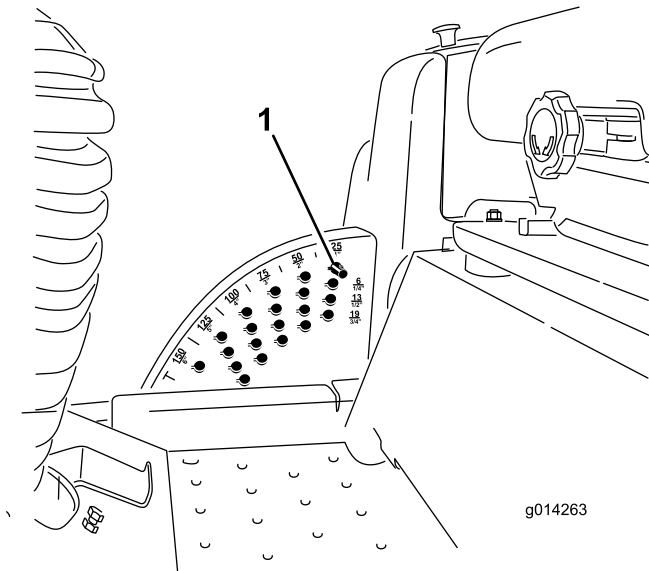

Figure 24
1. With the engine running, push back the deck-lift switch until the mower deck is fully raised, and **release the switch immediately** as shown in Figure 24.
2. Rotate the height-of-cut pin until the nub on it lines up with the slots in the holes in the height-of-cut bracket and remove it (Figure 24).
3. Select a hole in the height-of-cut bracket corresponding to the desired height of cut, insert the pin, and rotate it down to lock it in place (Figure 24).
Note: There are 4 rows of hole positions (Figure 24). The top row gives you the height of cut listed above the pin. The second row down gives you the height listed plus 6 mm (1/4 inch).